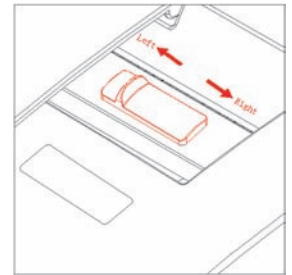

Figure-10
2. According to the size of plastic comb, you can move the **paper edge guide** left or right to set the punching depth as shown figure-10.